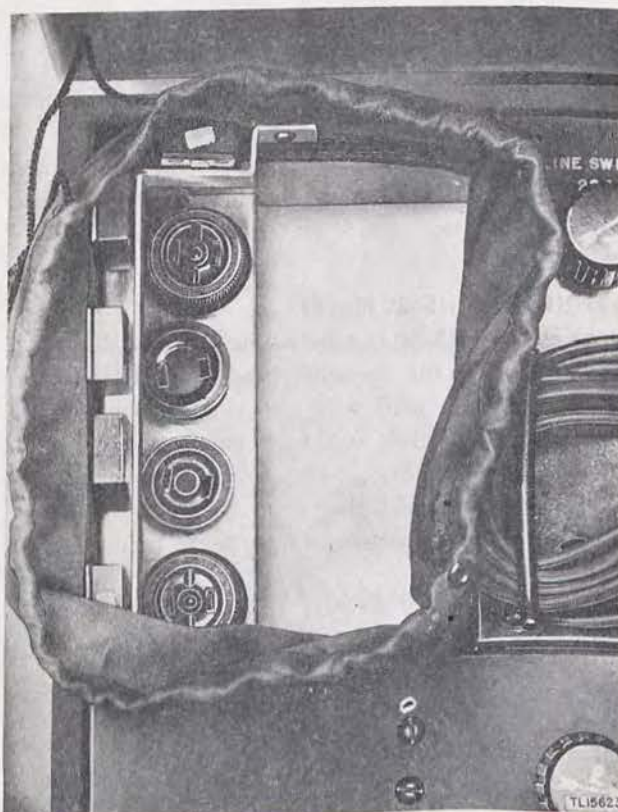
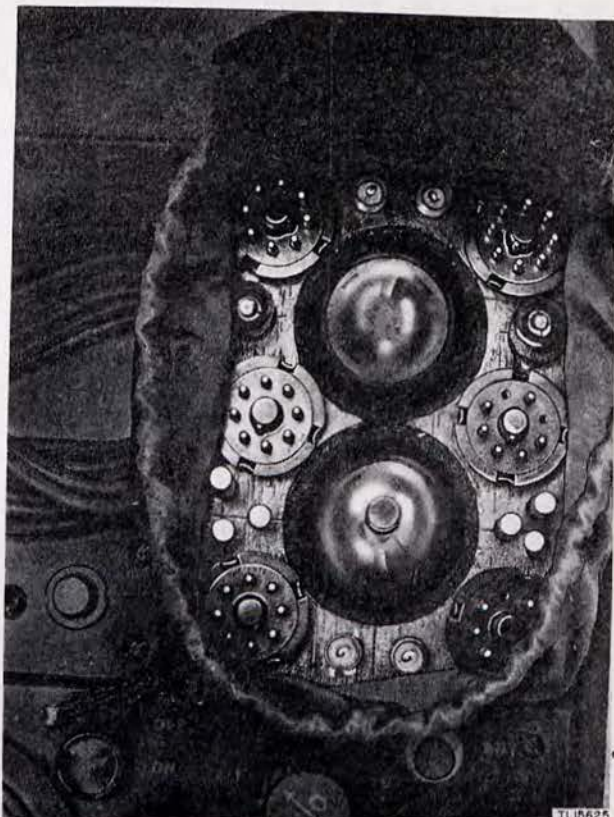
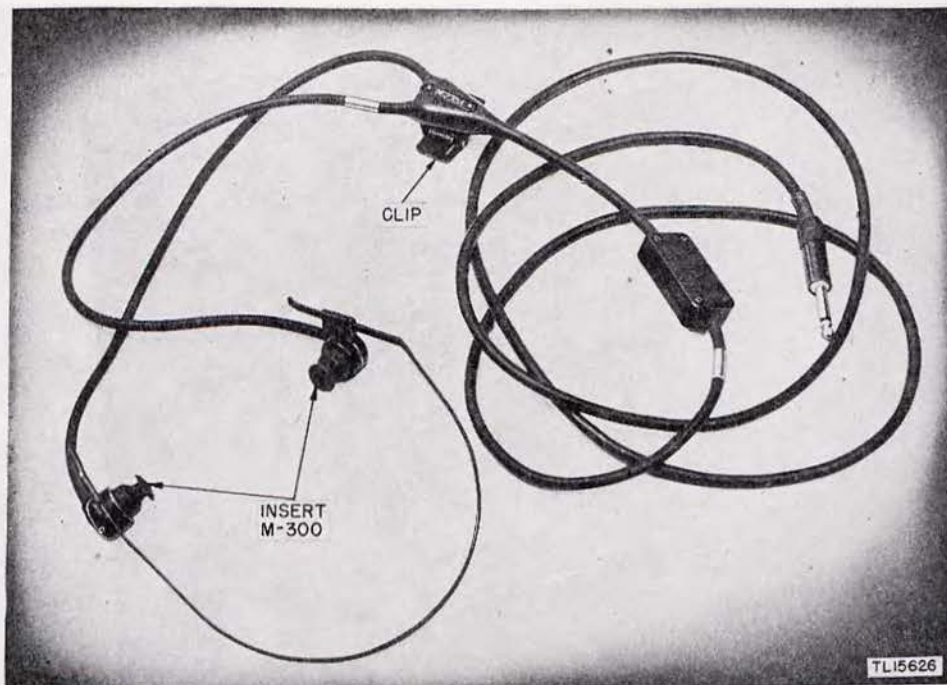

Figure 3. Adapters in left-hand compartment.
Figure 5. Right-hand accessory compartment.
Figure 6. Headset HS-30.
a. The case housing Radio Set AN/PRC-1 () is made of fabric-covered plywood. The case is of the strongest possible construction consistent with its reduced weight. The interior of the case is fitted with an aluminum framework and brackets for supporting the receiver, transmitter, and rectifier power unit of Radio Set AN/PRC-1 () (fig. 8). In addition, two accessory compartments are provided. The left-hand accessory compartment (figs. 3 and 9) contains:
- (1) Adapters, set.
- (2) Antenna.
- (3) Headset.
- (4) Key.
b. The right-hand accessory compartment (fig. 5) contains:
- (1) Set spare tubes for receiver.
- (2) Set spare tubes for transmitter.
- (3) Spare rectifier tube for rectifier power unit.
- (4) Spare neon bulbs.
- (5) Spare dial and panel lamps.
12. HEADSET HS-30 (fig. 6).